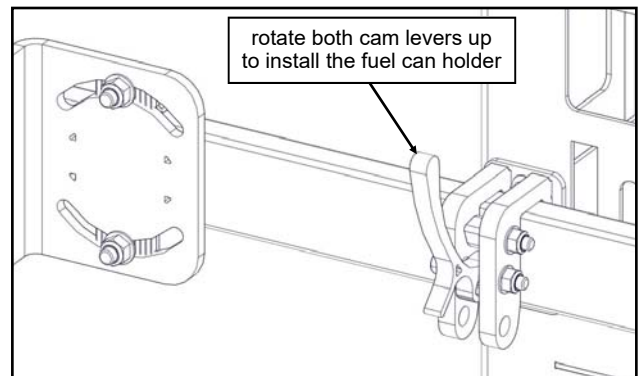

Fig. 8 (cam lever in the open position)
8. To install the fuel can holder, rotate both cam levers UP, then place onto the Tool Bar. See fig. 8.